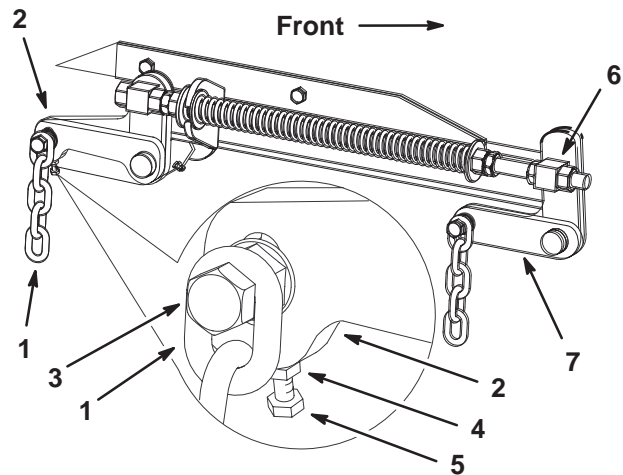

Figure 51
7. If the measurements at positions **B** or **C** are incorrect, loosen the bolt that attaches the rear chain to the rear support arm (Fig. 51).